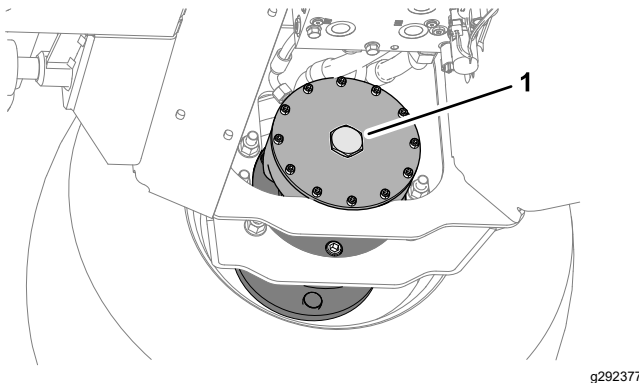

Figure 38
2. Install the hex plug into the motor end plate (Figure 38).